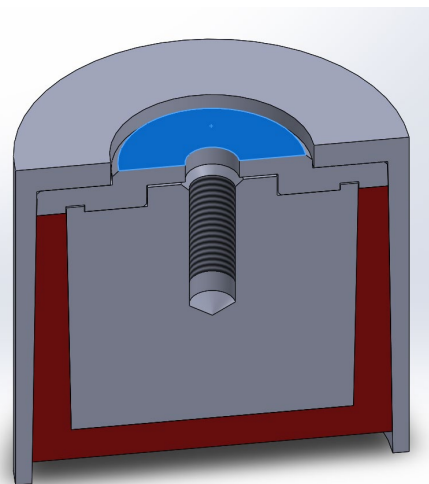

Figure 3. Turn the mould upside down.
3. Unscrew the nut off the mould from the bottom. Remove the bottom support and turn the mould cylinder upside down (Figure 3).